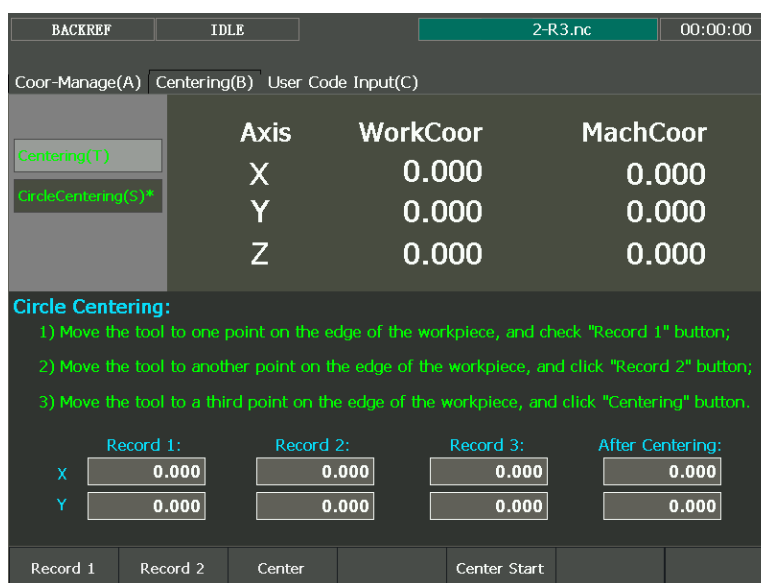

Fig. 3-26 Circle Centering Interface
In auto mode, press [Advanced], and then the letter “B” to enter the “Centering (B)” screen, and then the letter key “S” to turn to “Circle Centering” mode. See Fig. 3-26.